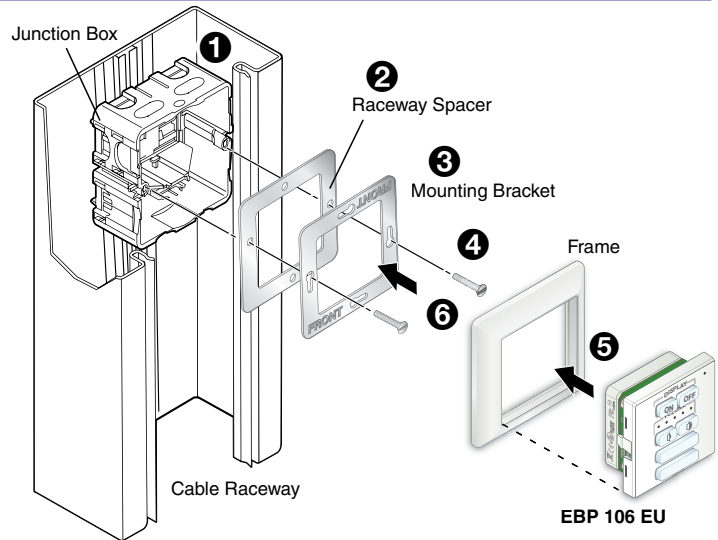

Figure 16. Mounting in an EU Raceway with Spacer
- If there is a gap between the metal mounting bracket and the wall frame, insert the provided raceway spacer between the mounting bracket and the rim of the junction box (see figure 16).
1. Mount an electrical box in the raceway (Figure 16, **1**). Follow the instructions provided by the manufacturer.